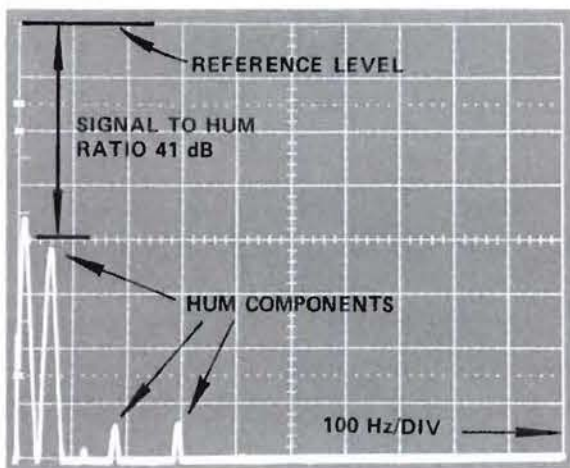

Figure 37 Example of S/N and Hum Measurements
5. The difference in amplitude (Figure 37) between the signal reference level and the noise floor, less a correction from the measured bandwidth (3 kHz) to the desired bandwidth (15 kHz), is the signal to noise ratio. The correction factor to be subtracted is 7 dB. Example: S/N equals VS minus VN minus Correction Factor; S/N equals 0 dB -72 dB - (-7 dB) = -65 dB (S/N).
2. Signal to hum ratio can be determined by measuring the amplitude difference between the Signal Reference Level (step 3) and any 60 or 120 Hz hum components. An example is shown in Figure 37.